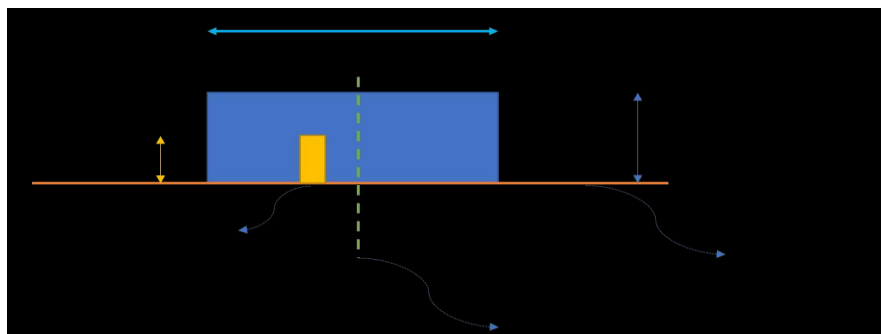

Figure 4 DRA Antenna “a” axis and probe position
- The feed point must be between the middle of “a” and the side of the DRA as in Figure 4. Please make sure that the feed point is not in the center of “a” dimension during the experiment.